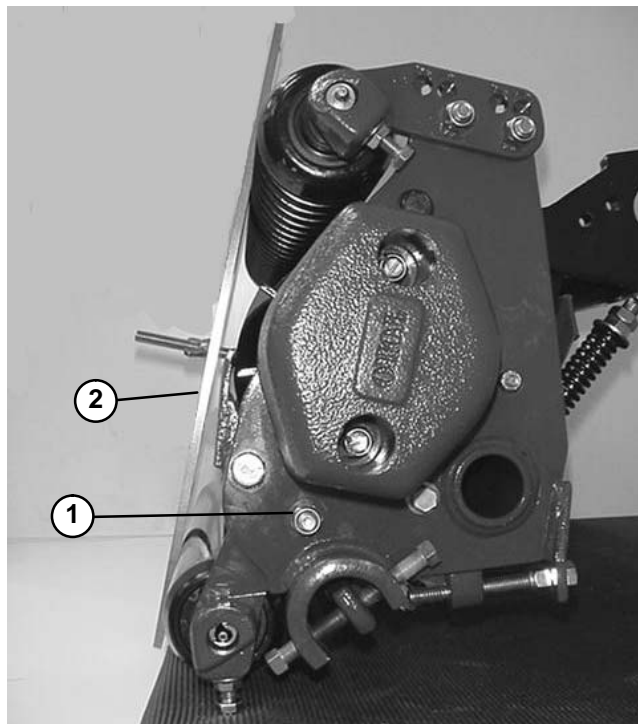

Figure 18
1. Rotate the cutting unit vertical and place the gauge bar across front and rear rollers (Fig. 18).
2. Loosen the locknuts securing the height-of-cut brackets to each end of the cutting unit (Fig. 18).
4. Place the bar across the front and rear rollers and adjust the tap bolt until the underside of the screw head engages the bedknife cutting edge (Fig. 18).